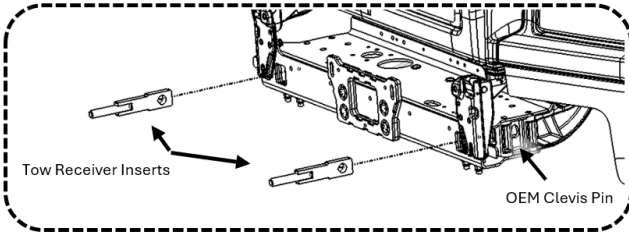

Figure 2c: Tow Receiver Installation
3. Install the Tow Receiver Inserts into the trucks' tow receivers and secure them using the OEM clevis pins; see Figure 2c.